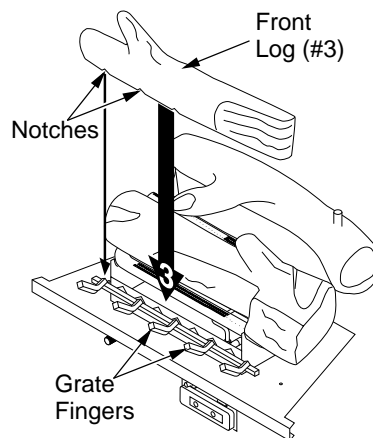

Figure 51 - Installing Front Log (#3)
3. Locate the notches in the bottom of the front log (#3). Place the front log on the grate fingers. Make sure the notches of the front log line up with the grate fingers (see Figure 51).